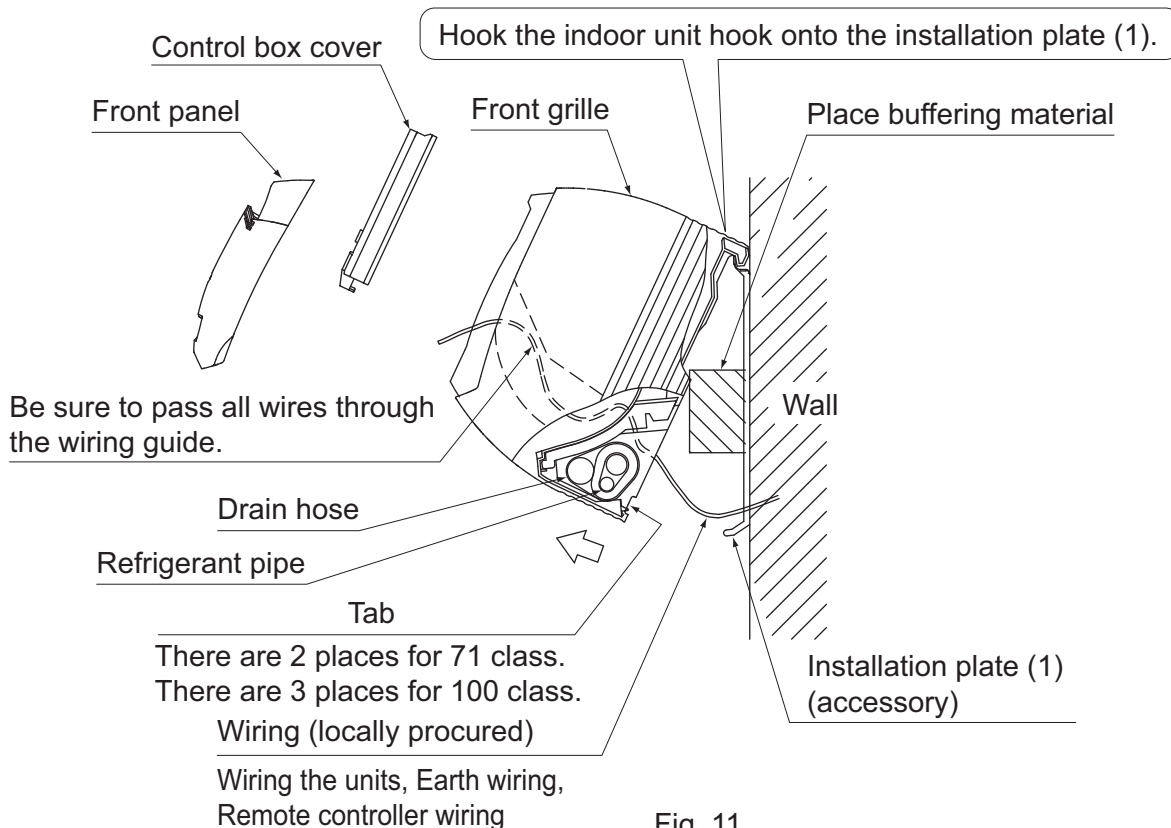

Fig. 11
### (4) Hook the indoor unit onto the installation plate. (Refer to Fig. 11)
- (7) **Push on both bottom edges of the indoor unit using both hands and hook the tab on the back of the indoor unit onto the installation plate (1). (Refer to Fig. 11)**
- At this time remove the buffering material placed in step (3).